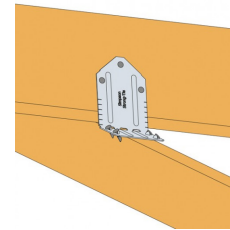

Fig 3: VTCR - View showing correct fastener installation into supporting truss
- Note: when the supporting truss is 35mm thick, a portion of the nails will be exposed before penetrating into the side of the truss (Fig 3)